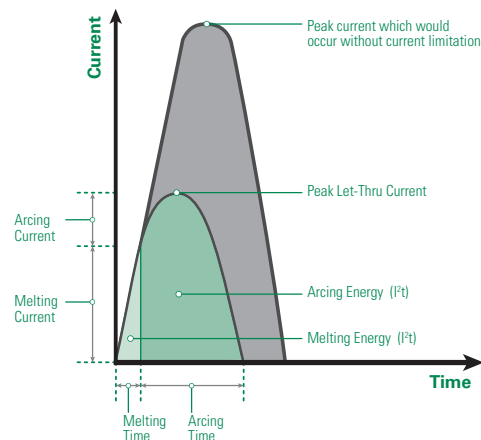

Figure 11 – Arcing and melting currents plus arcing, melting and clearing times
**Arcing Current** (See *Figure 11*) – The current that flows through the fuse after the fuse link has melted and until the circuit is interrupted.
**Arcing Time** (See *Figure 11*) – The time between the melting of a fuse link or parting of circuit breaker contacts, until the overcurrent is interrupted.
**Clearing Time** (see Figure 11) – The time between the initiation of an overcurrent condition to the point at which the overcurrent is interrupted. Clearing Time is the sum of Melting Time and Arcing Time.
**Melting Current** (see *Figure 11*) – The current that flows through the fuse from the initiation of an overcurrent condition to the instant arcing begins inside the fuse.
**Melting Time** (see *Figure 11*) – The time span from the initiation of an overcurrent condition to the instant arcing begins inside the fuse.